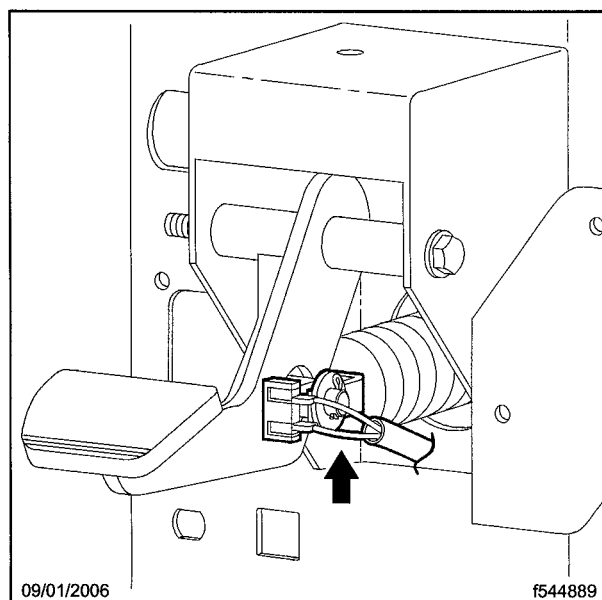

Fig. 1, Brake Light Switch and Harness
7. Install the new brake switch and attach the harness. See **Fig. 1**.
3. Locate the brake switch on the brake pedal, shown in **Fig. 1**.